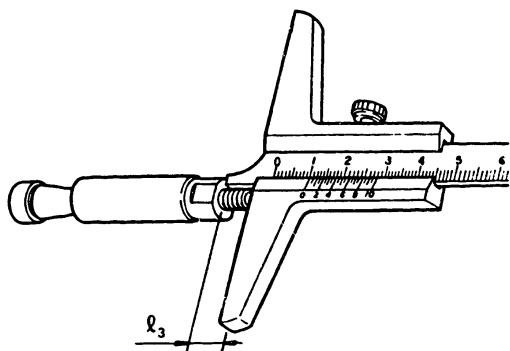

Fig. 38 Measuring the distance  $\ell_3$
- 3 Measure the length  $\ell_3$  of the adjusting pin's threaded portion. (Fig. 38)